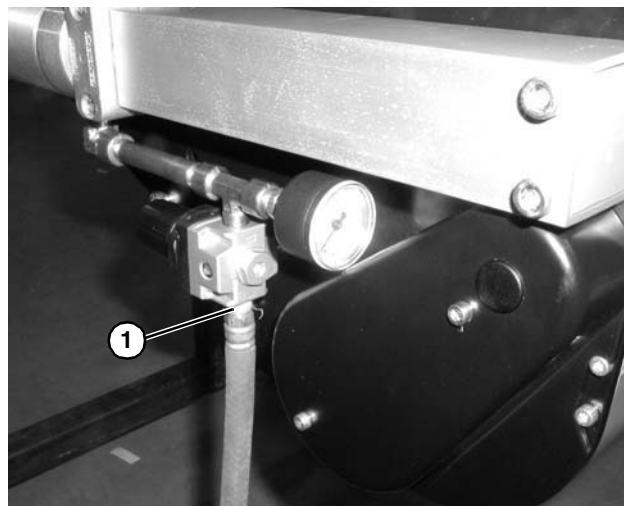

Figure 69
1. Remove air supply and remove hose (**Figure 69, item 1**) from center drive.